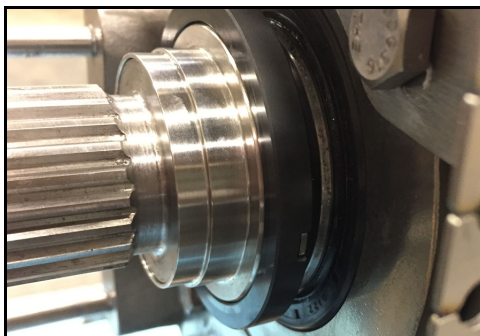

Figure 129 - Rotary seal installed
23. Figure 129 shows the seal installed.